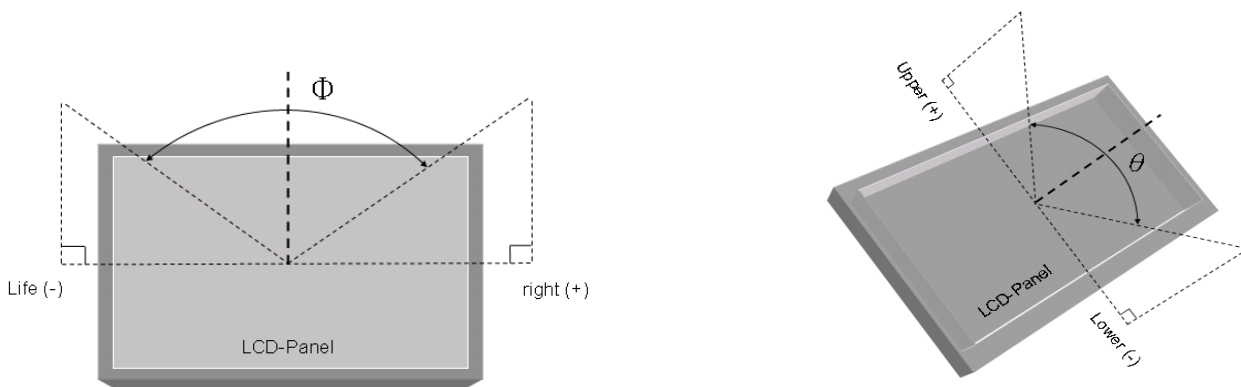

Fig8-2 Definition of Viewing Angle
- *4) Definition of Viewing Angle(θ, ψ), refer to Fig8-2 as below :